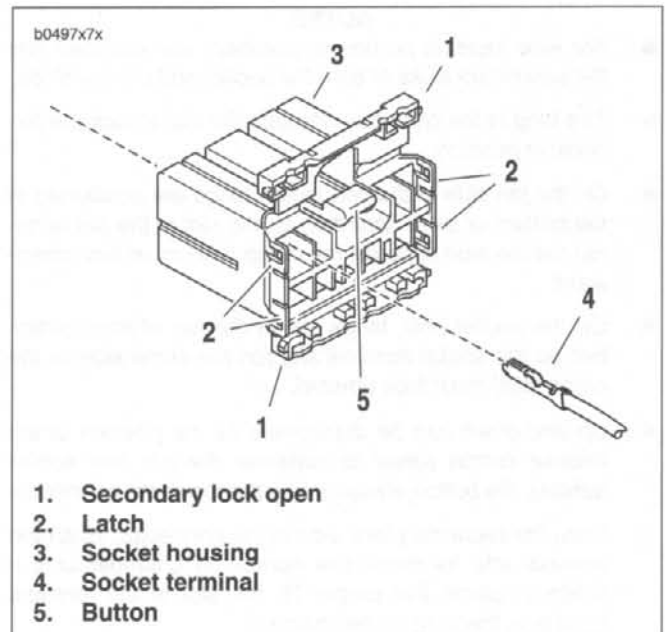

Figure 7-82. Socket Housing
2. See Figure 7-82. Depress the button (5) on the socket housing (3).